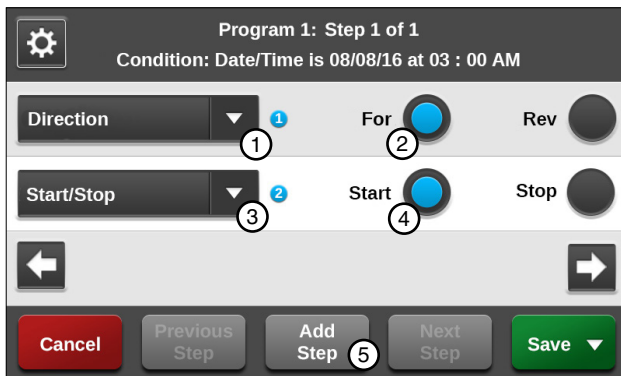

Figure 132-3 1. Direction Command 4. Start
- e) Select the **Add Command** drop-down menu and choose **Direction**. Refer to Figure 132-3.